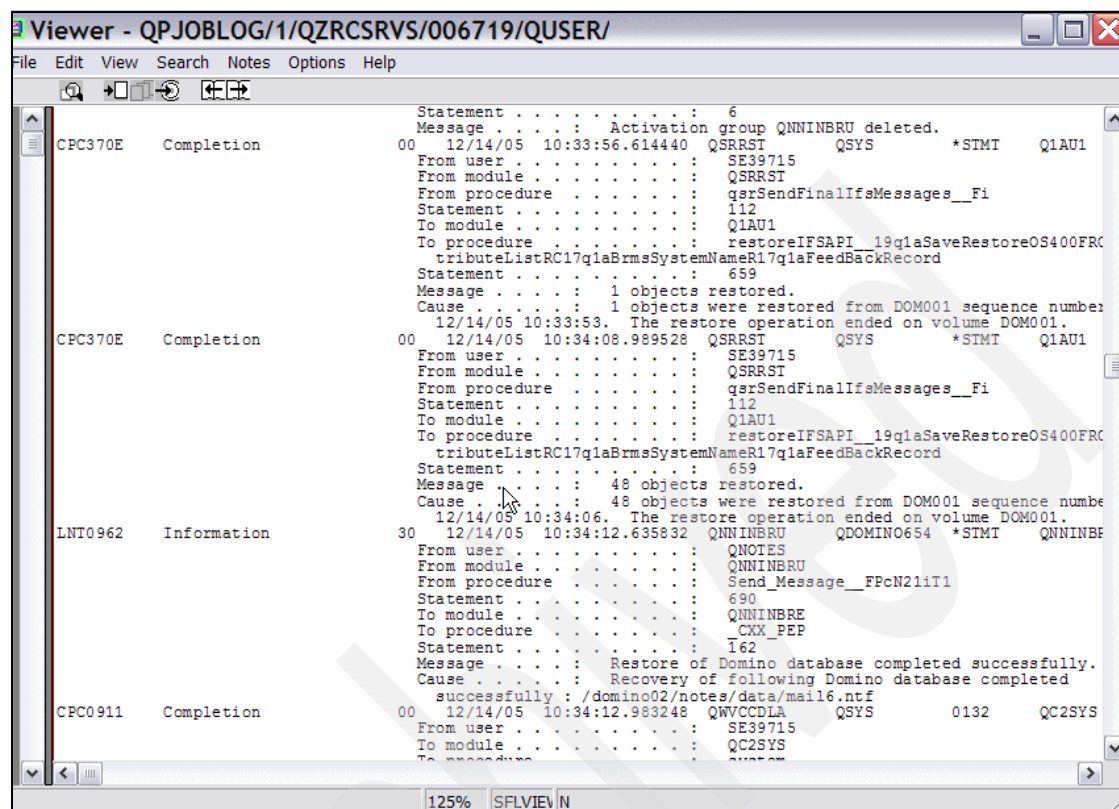

Figure 5-100 Restore Domino data with BRMS, Restore - joblog
3. Figure 5-100 on page 277 shows the joblog. Scroll down until you find a LNT0962 message stating Recovery of following Domino database completed successfully: /domino02/notes/data/mail6.ntf.